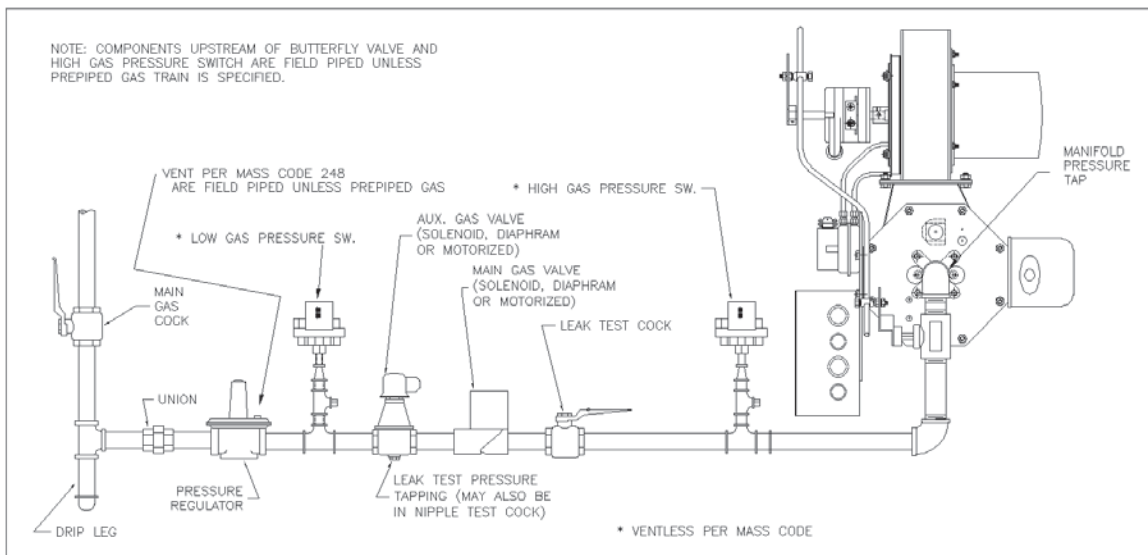

Figure 4: Typical U.L. Gas Piping Train for Modulating FDM Burners
- Once flame is established, run the mod motor to position the gas butterfly valve wide open. Adjust the gas pressure regulator to provide the recommended pressures at the burner manifold pressure tap (**Figure 4**). If there is any question as to the actual firing rate – the job site gas meter should be clocked.